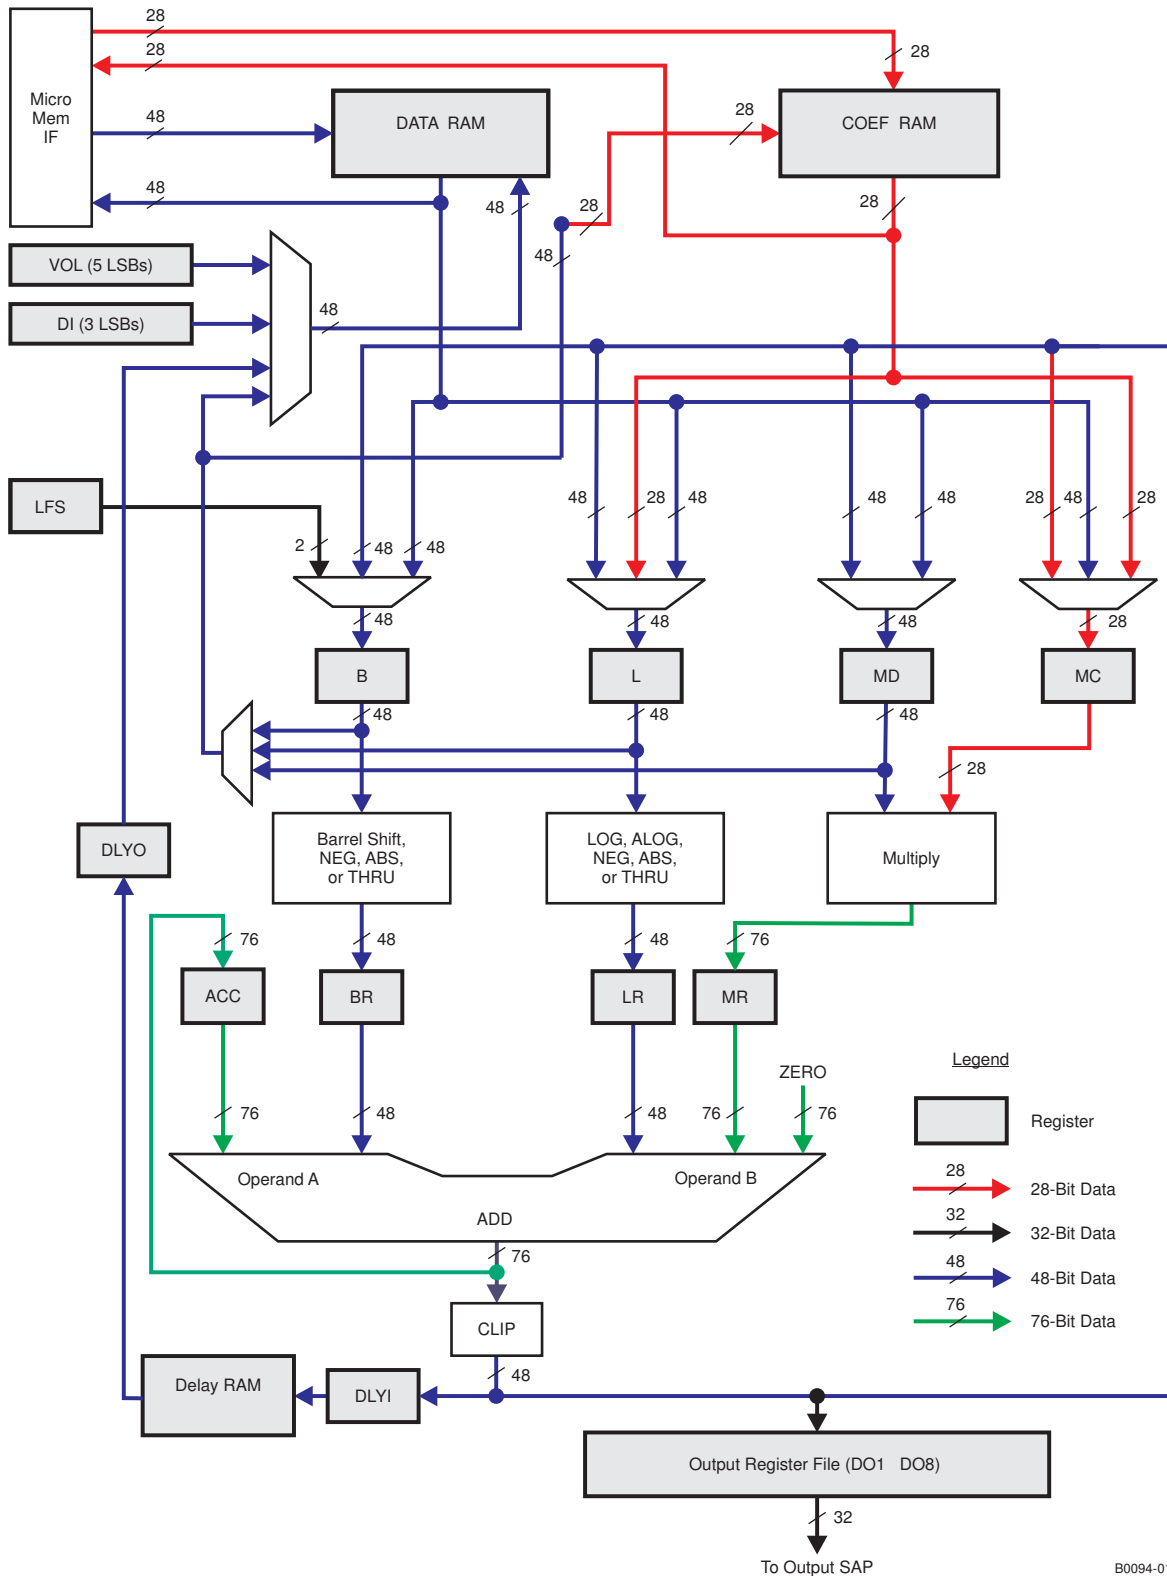

Figure 12. TAS3108/TAS3108IA DSP Audio Processing Architecture
Figure 12 shows the TAS3108/TAS3108IA DSP audio processing architecture. The blocks with bold lines are registers that are clocked by the internal DSP clock. The maximum frequency of the DSP clock is 135 MHz. For more information, see the TAS3108/TAS3108IA Audio DSP data sheet, TI literature number SLES152.
- Register DI – Data input from serial audio port (SAP), DATA RAM memory mapped so that lower three LSBs decode the input channels as shown in Figure 12